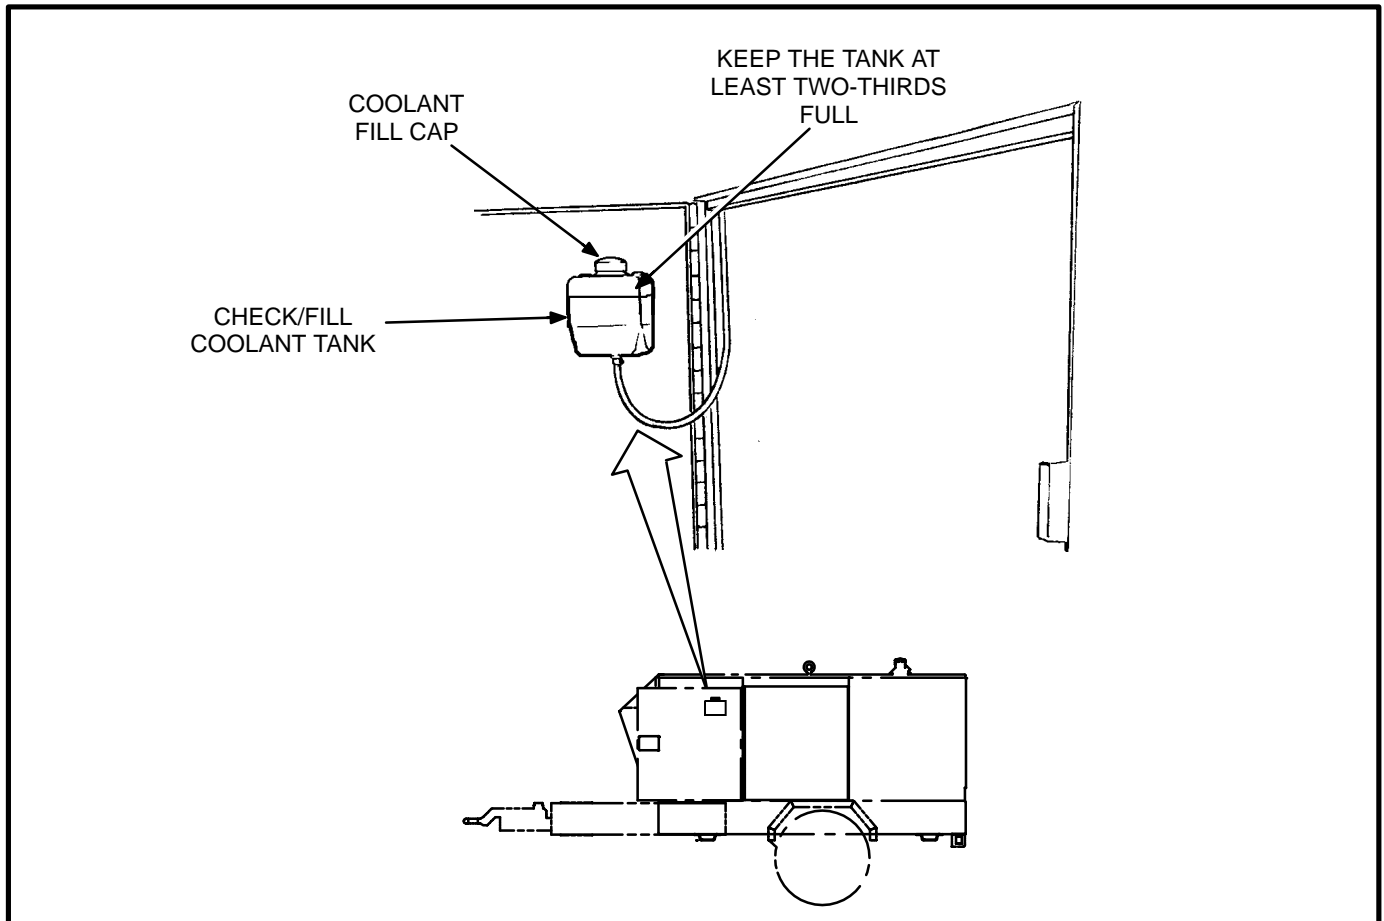

FIGURE 9-4. COOLANT CHECK/FILL TANK
3. Add coolant to the coolant recovery tank (see Figure 9-4) until it is at least two-thirds (2/3) full. Check the coolant level again after the engine has cooled down and add coolant until the recovery tank is about two-thirds (2/3) full.
Check the coolant level during shutdown periods at the intervals specified in the *Maintenance Schedule*. The coolant recovery tank should be about two-thirds (2/3) full when the engine is cold. The level will rise as the engine warms up. Note the normal level when the engine is running under load. Add coolant to the recovery tank to replace the normal loss of coolant. Check the entire cooling system for leaks if the level keeps dropping. See Figure 9-4.